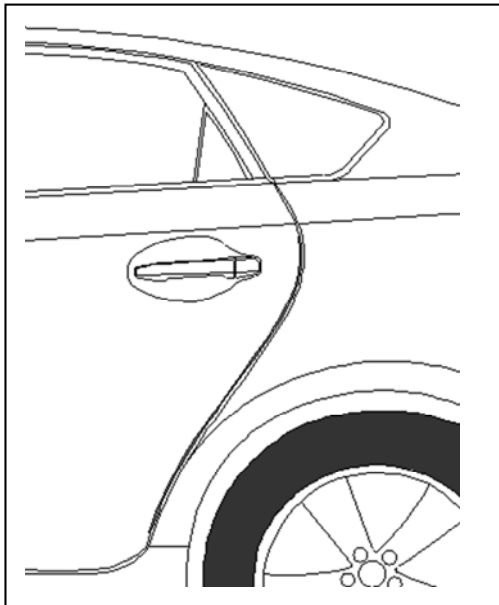

Fig. 1-9
- (8) Carefully close the door and visually ensure the DEG has sufficient clearance from the adjoining body panels. Carefully remove the template from the door and retain for use on the passenger side (Fig. 1-9).